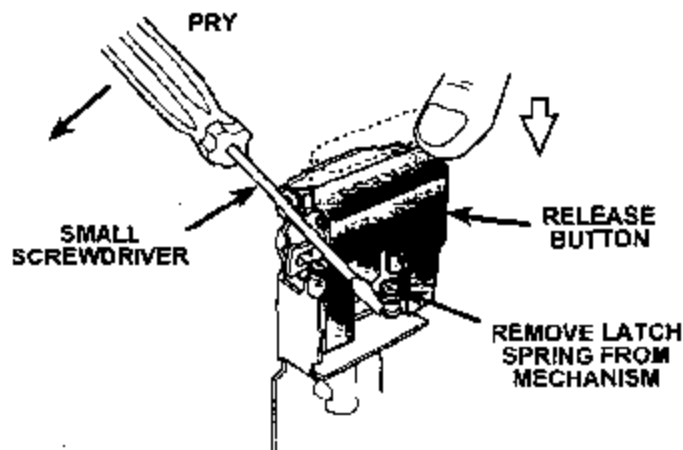

Figure 6
9. **Model 524K (1987-1991 MY) only:** Depress the release button and then disconnect the lower loop of the latch spring from the buckle mechanism using a small screwdriver or pick (Figure 6).